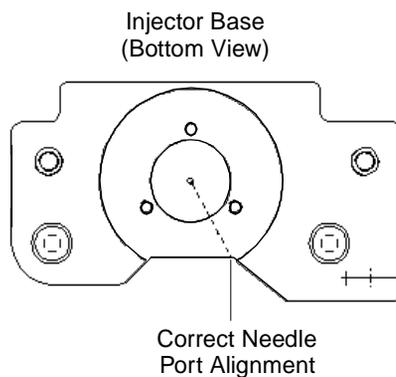

Figure 7-16 Aligning the Needle Port
6. Check the orientation of the needle port. Be sure that it faces toward the outlet (red) line of the seal pack (Figure 7-16).